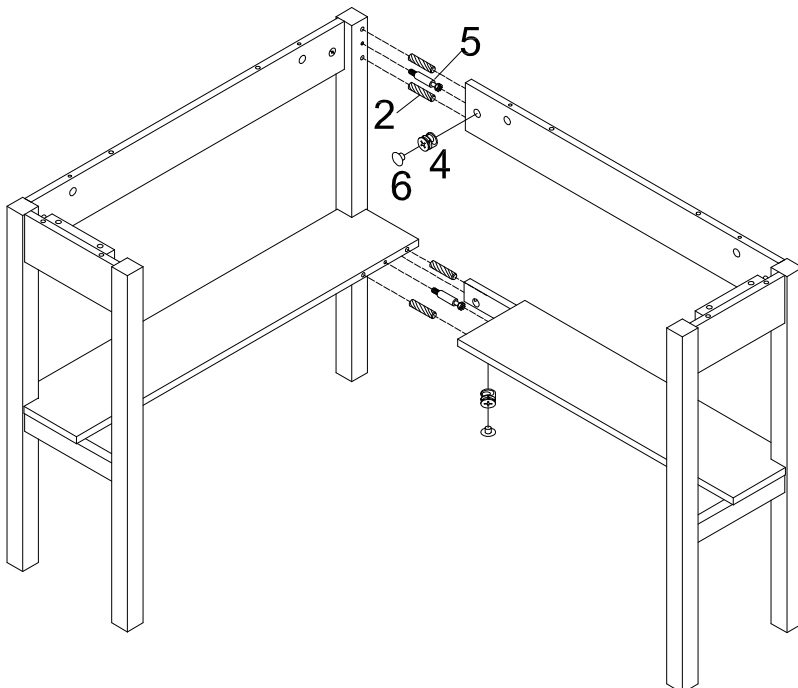

Figure 12
Insert cam locks (4) into holes on assembled unit from figure 12. Screw cam bolts (5) into holes on the bottom of wood top (A).
Attach wood top (A) to assembled unit from figure 12 by inserting wood dowels (2) and cam bolts (5) into corresponding holes until assembled unit from figure 12 and wood top (A) meet.
Insert bolts (1) through lock washers (13) and flat washers (12) to connect assembled unit from figure 12 and wood top together.